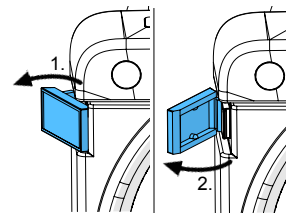

Fig. 9
- Open door latches (Fig. 9).
- Remove the Allen key (22) from its holder.
- Remove cover (15).
- Loosen the fastening screw (16), and remove the disc.
- Place a new disc on the lock pin (17).
- Open door latches (Fig. 9), remove door and set aside.
- Pull grinding table (5) at leading edge upward from ball head.
- Screw pull-off tool (11) into flange (23) until flange comes off.